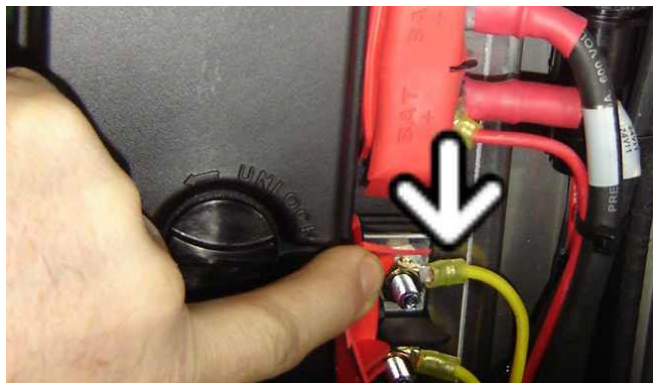

Figure 5 - 12VIVECR post
5. On VECR end, cut cable 12VI5 just above the terminal. (Fig 5&7)